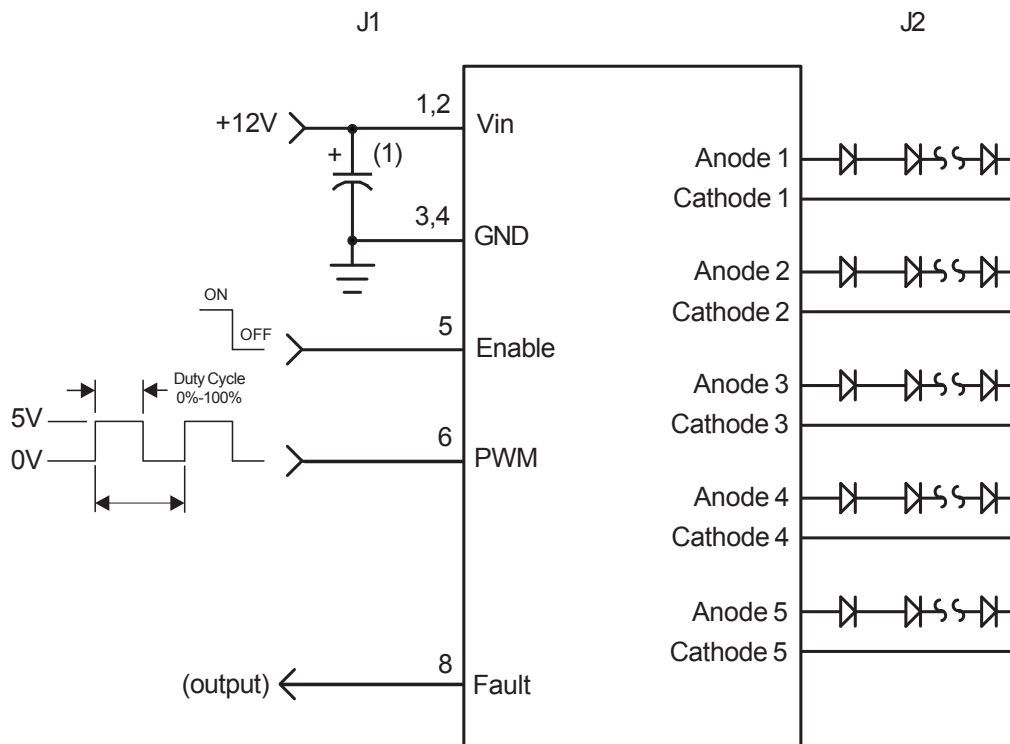

Figure 1
- OPERATION: External PWM configuration as shown in Figure 1 allows the user to control display brightness with an externally generated PWM signal. The user is responsible to provide the PWM signal. A dimming ratio up to 1000:1 is possible with this configuration. The minimum pulse width is 5 μs .